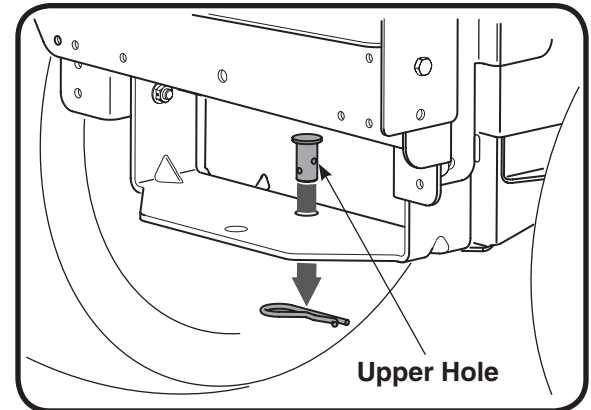

Figure 3-2
4. Reinsert the clevis pin through the aligned holes in both the bracket assembly and the hitch plate and secure with the hairpin clip removed earlier. Refer to Fig. 3-2.